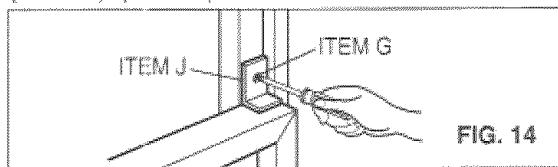

FIG. 14
- 13** Attach the L BRACKET (ITEM J) with screw (ITEM G). (FIG. 14)